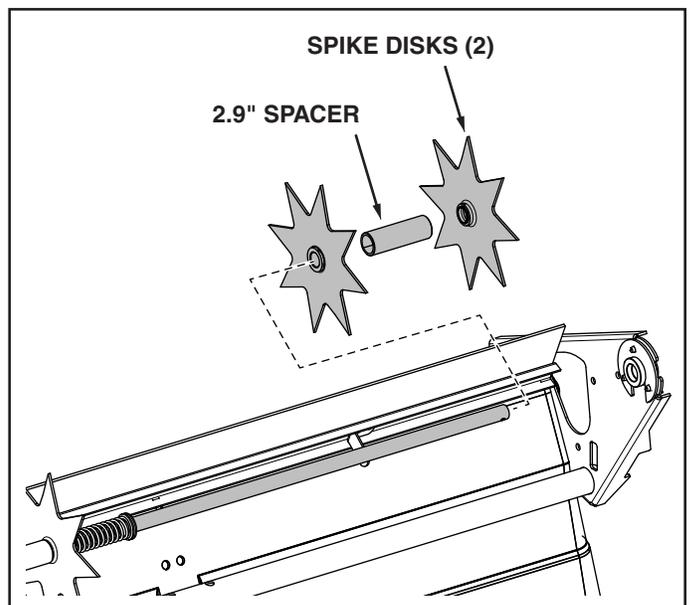

FIGURE 8
- Assemble two spike disks and a 2.9" spacer onto the axle. The flat side of the disks should face away from the spacer. See figure 8.